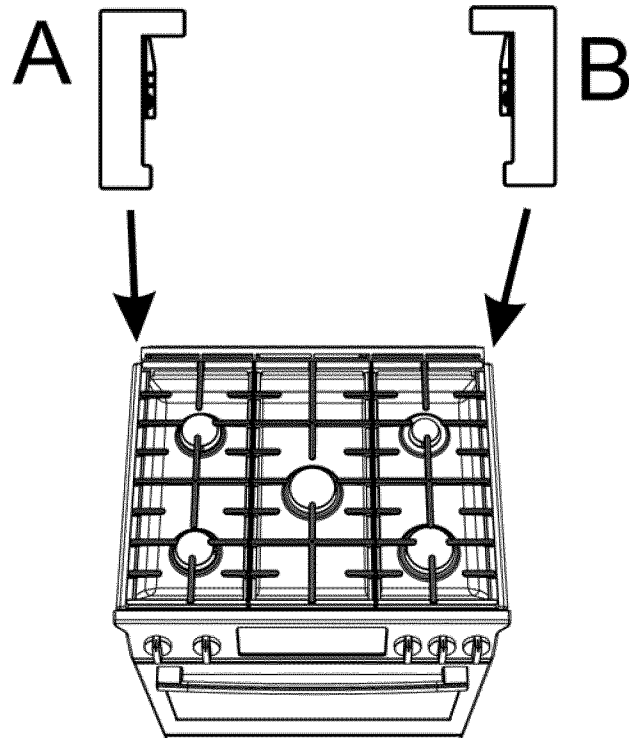

Figure 1: Identify right and left corner covers
If the range is already installed, can the range slide out enough to give access to the side screws of the rear trim? See Figure 1: Identify right and left corner covers and Figure 2: Rear trim side screw location.
2. Identify which corner cover is to be attached to the left (A) and right (B) rear of the range. See Figure 1: Identify right and left corner covers.